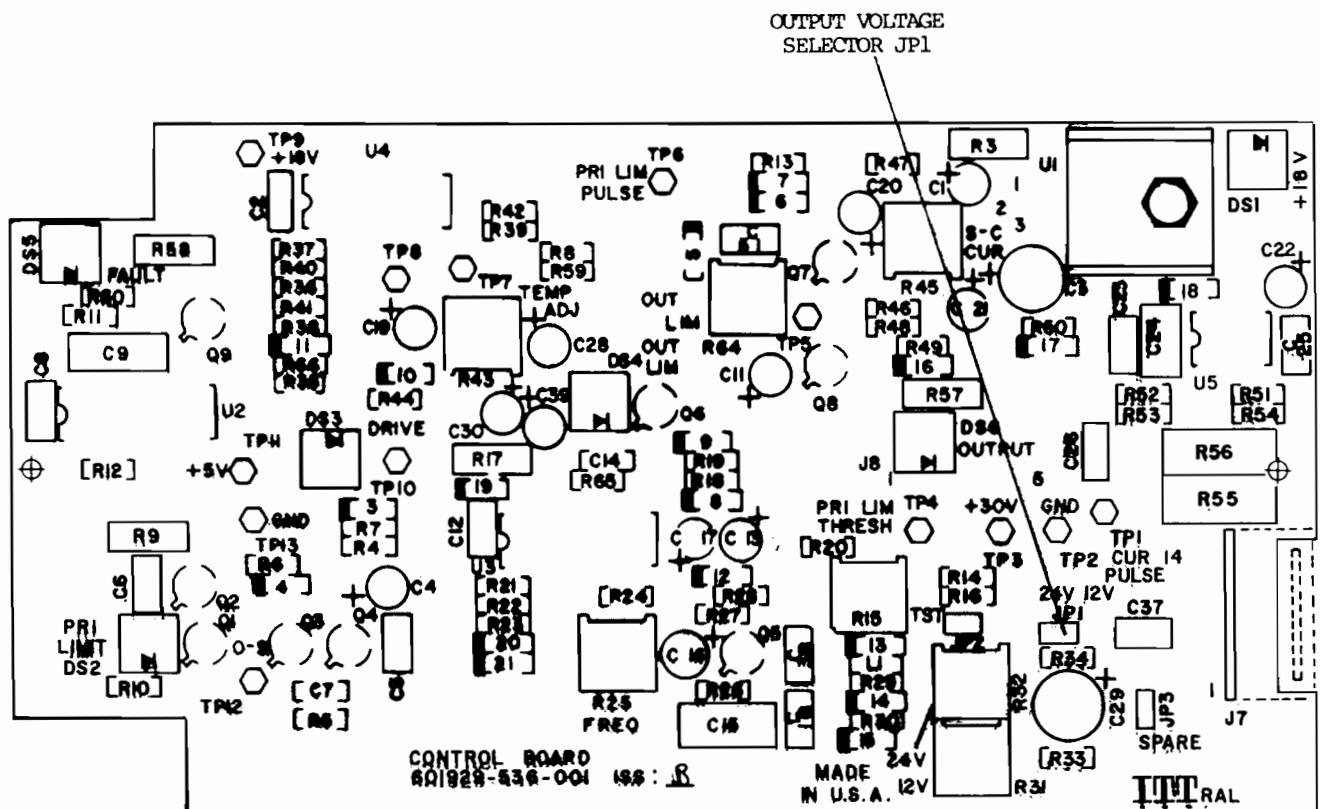

Figure 2.11
- f) Locate jumper JP1 on control board and set jumper to appropriate position (see Figure 2.11 below, also marked on board).